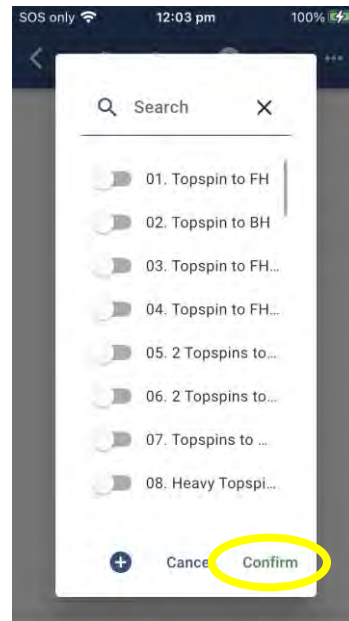

Figure 3-70
3. Push the "+", add Drill button at the top of the screen. You will now see a scrollable list of all available Drills. (Figure 3-70)
5. When you've added all of the Drills you intend to have in the Group, push the Confirm button near the bottom of the Add Drill screen. (Figure 3-70)
1. From within the current Group, stop play using the Stop Group button on the Application. (Figure 3-70)